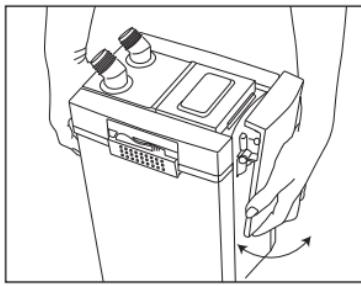

fig 10
- Leaving the levers in the closed position, open the two closing hooks by moving them downwards and outwards, then raising them and releasing the head (fig.10).